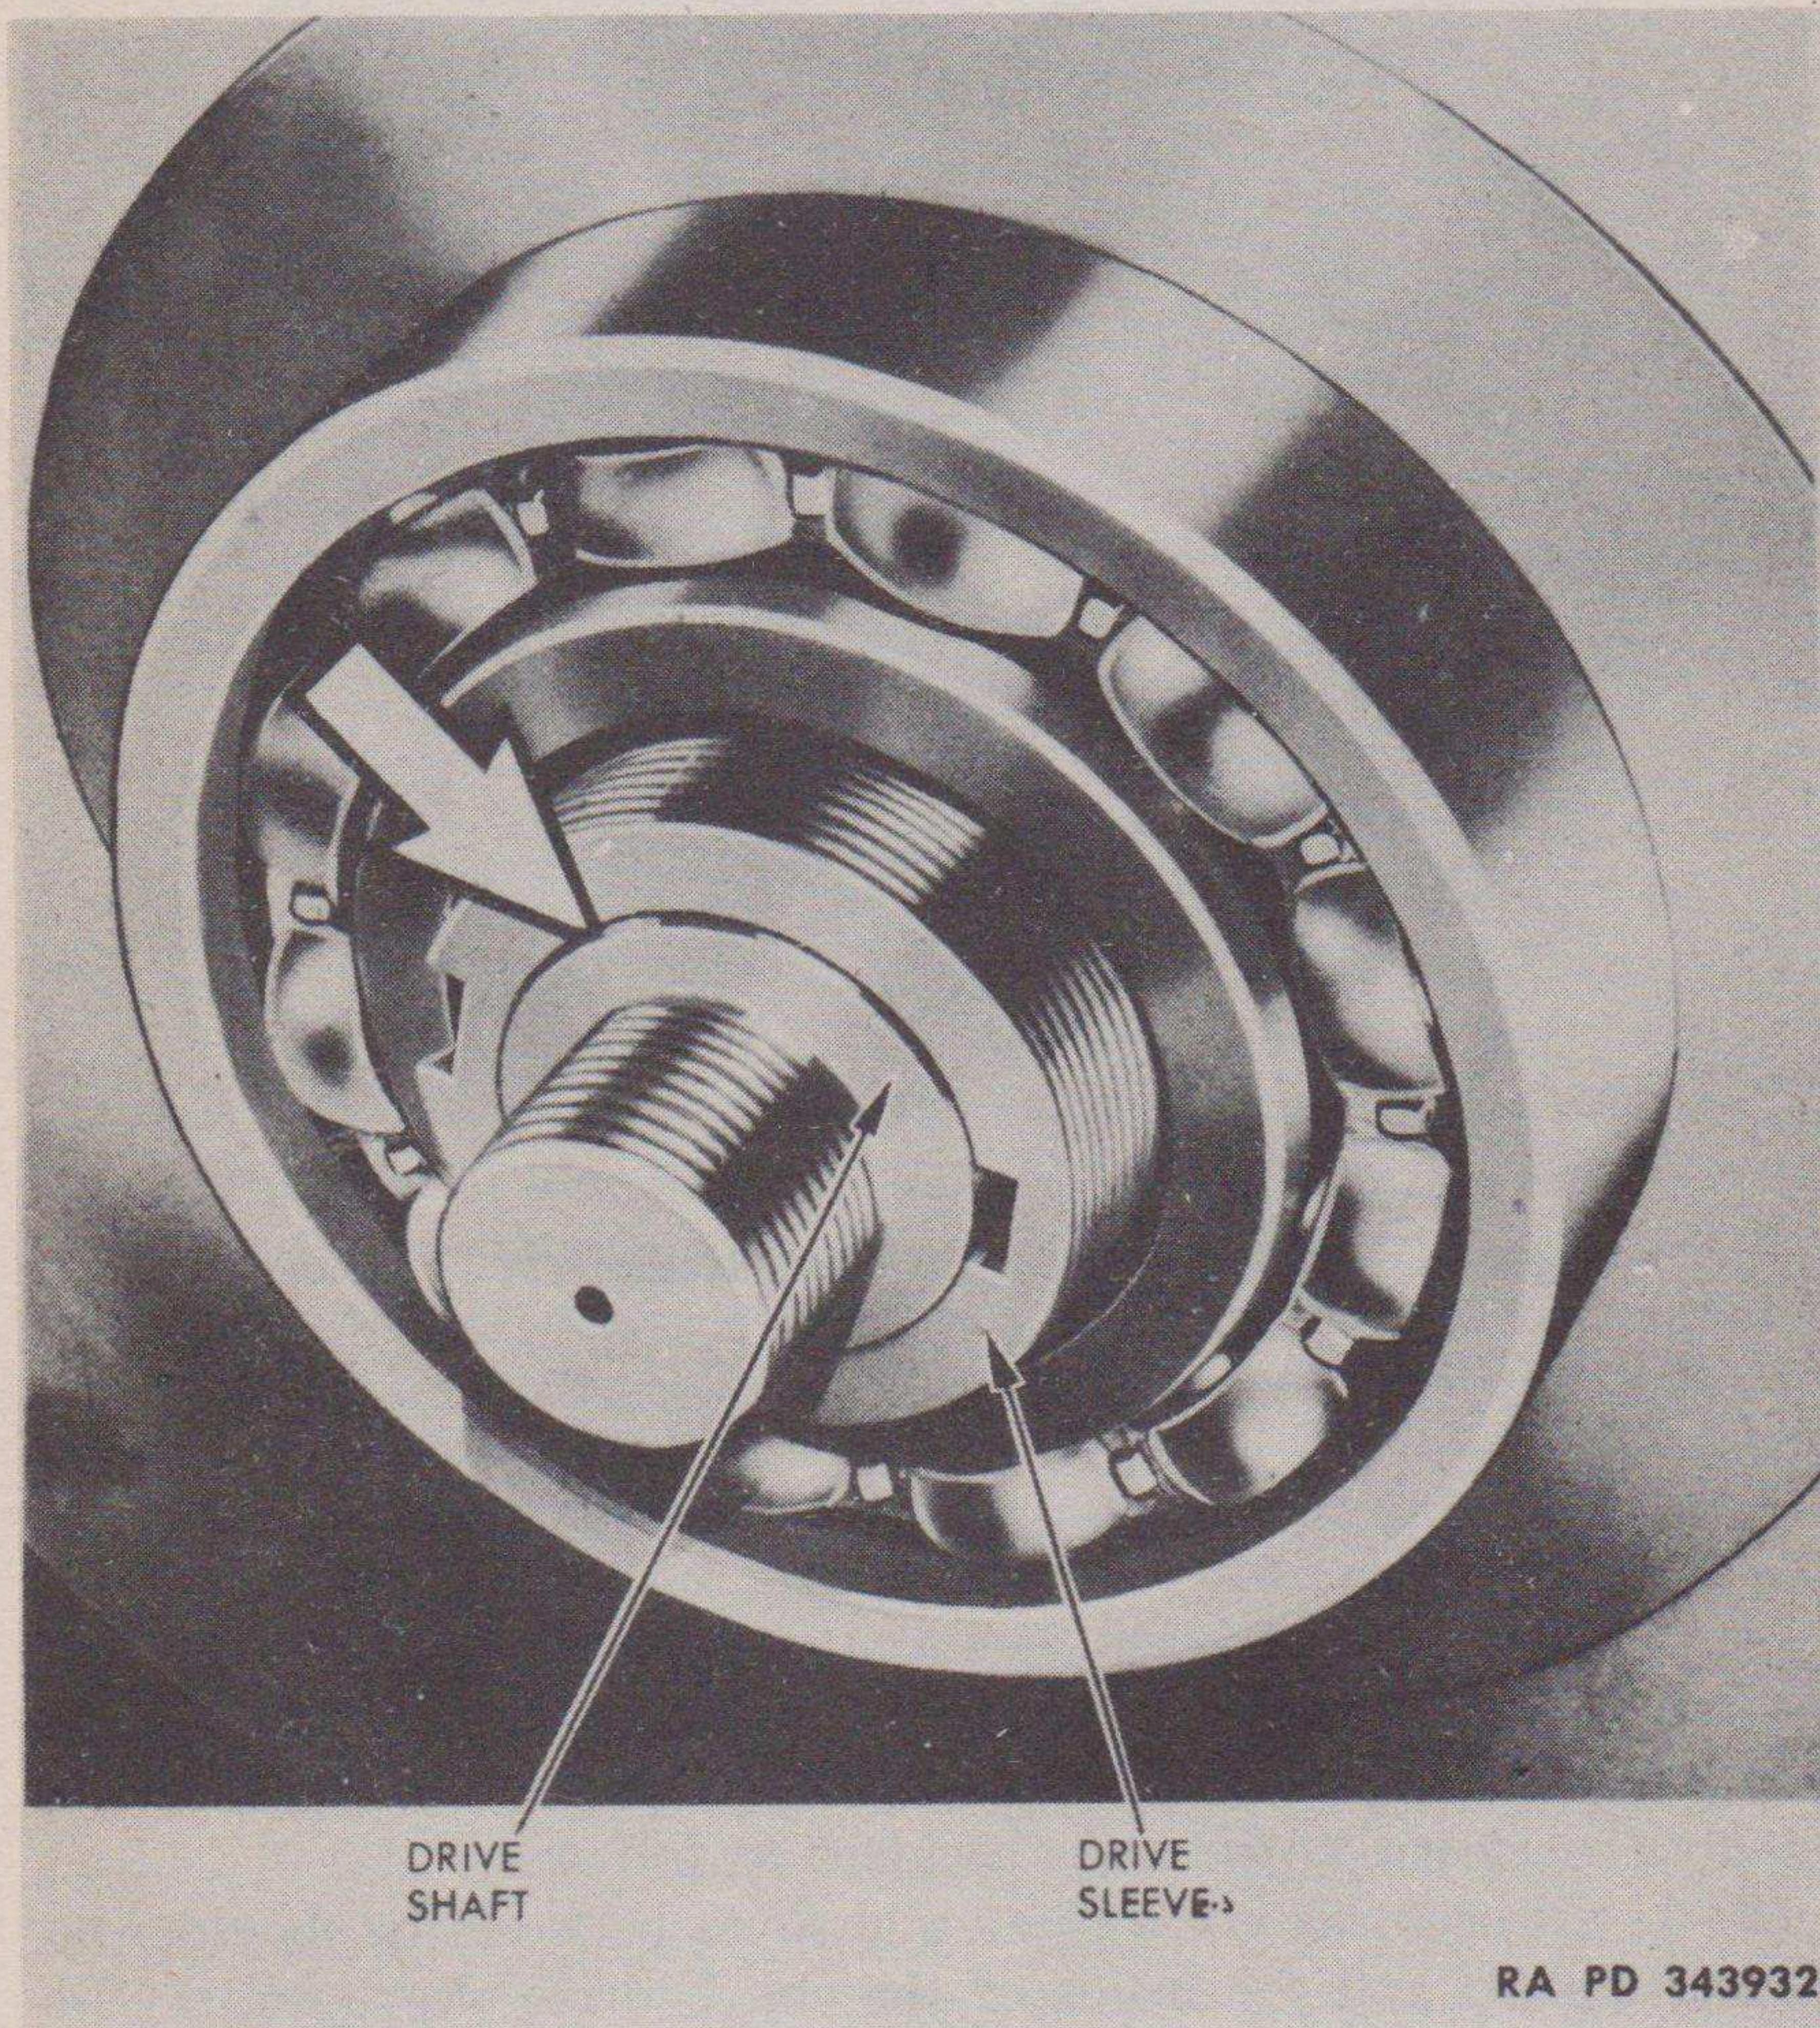
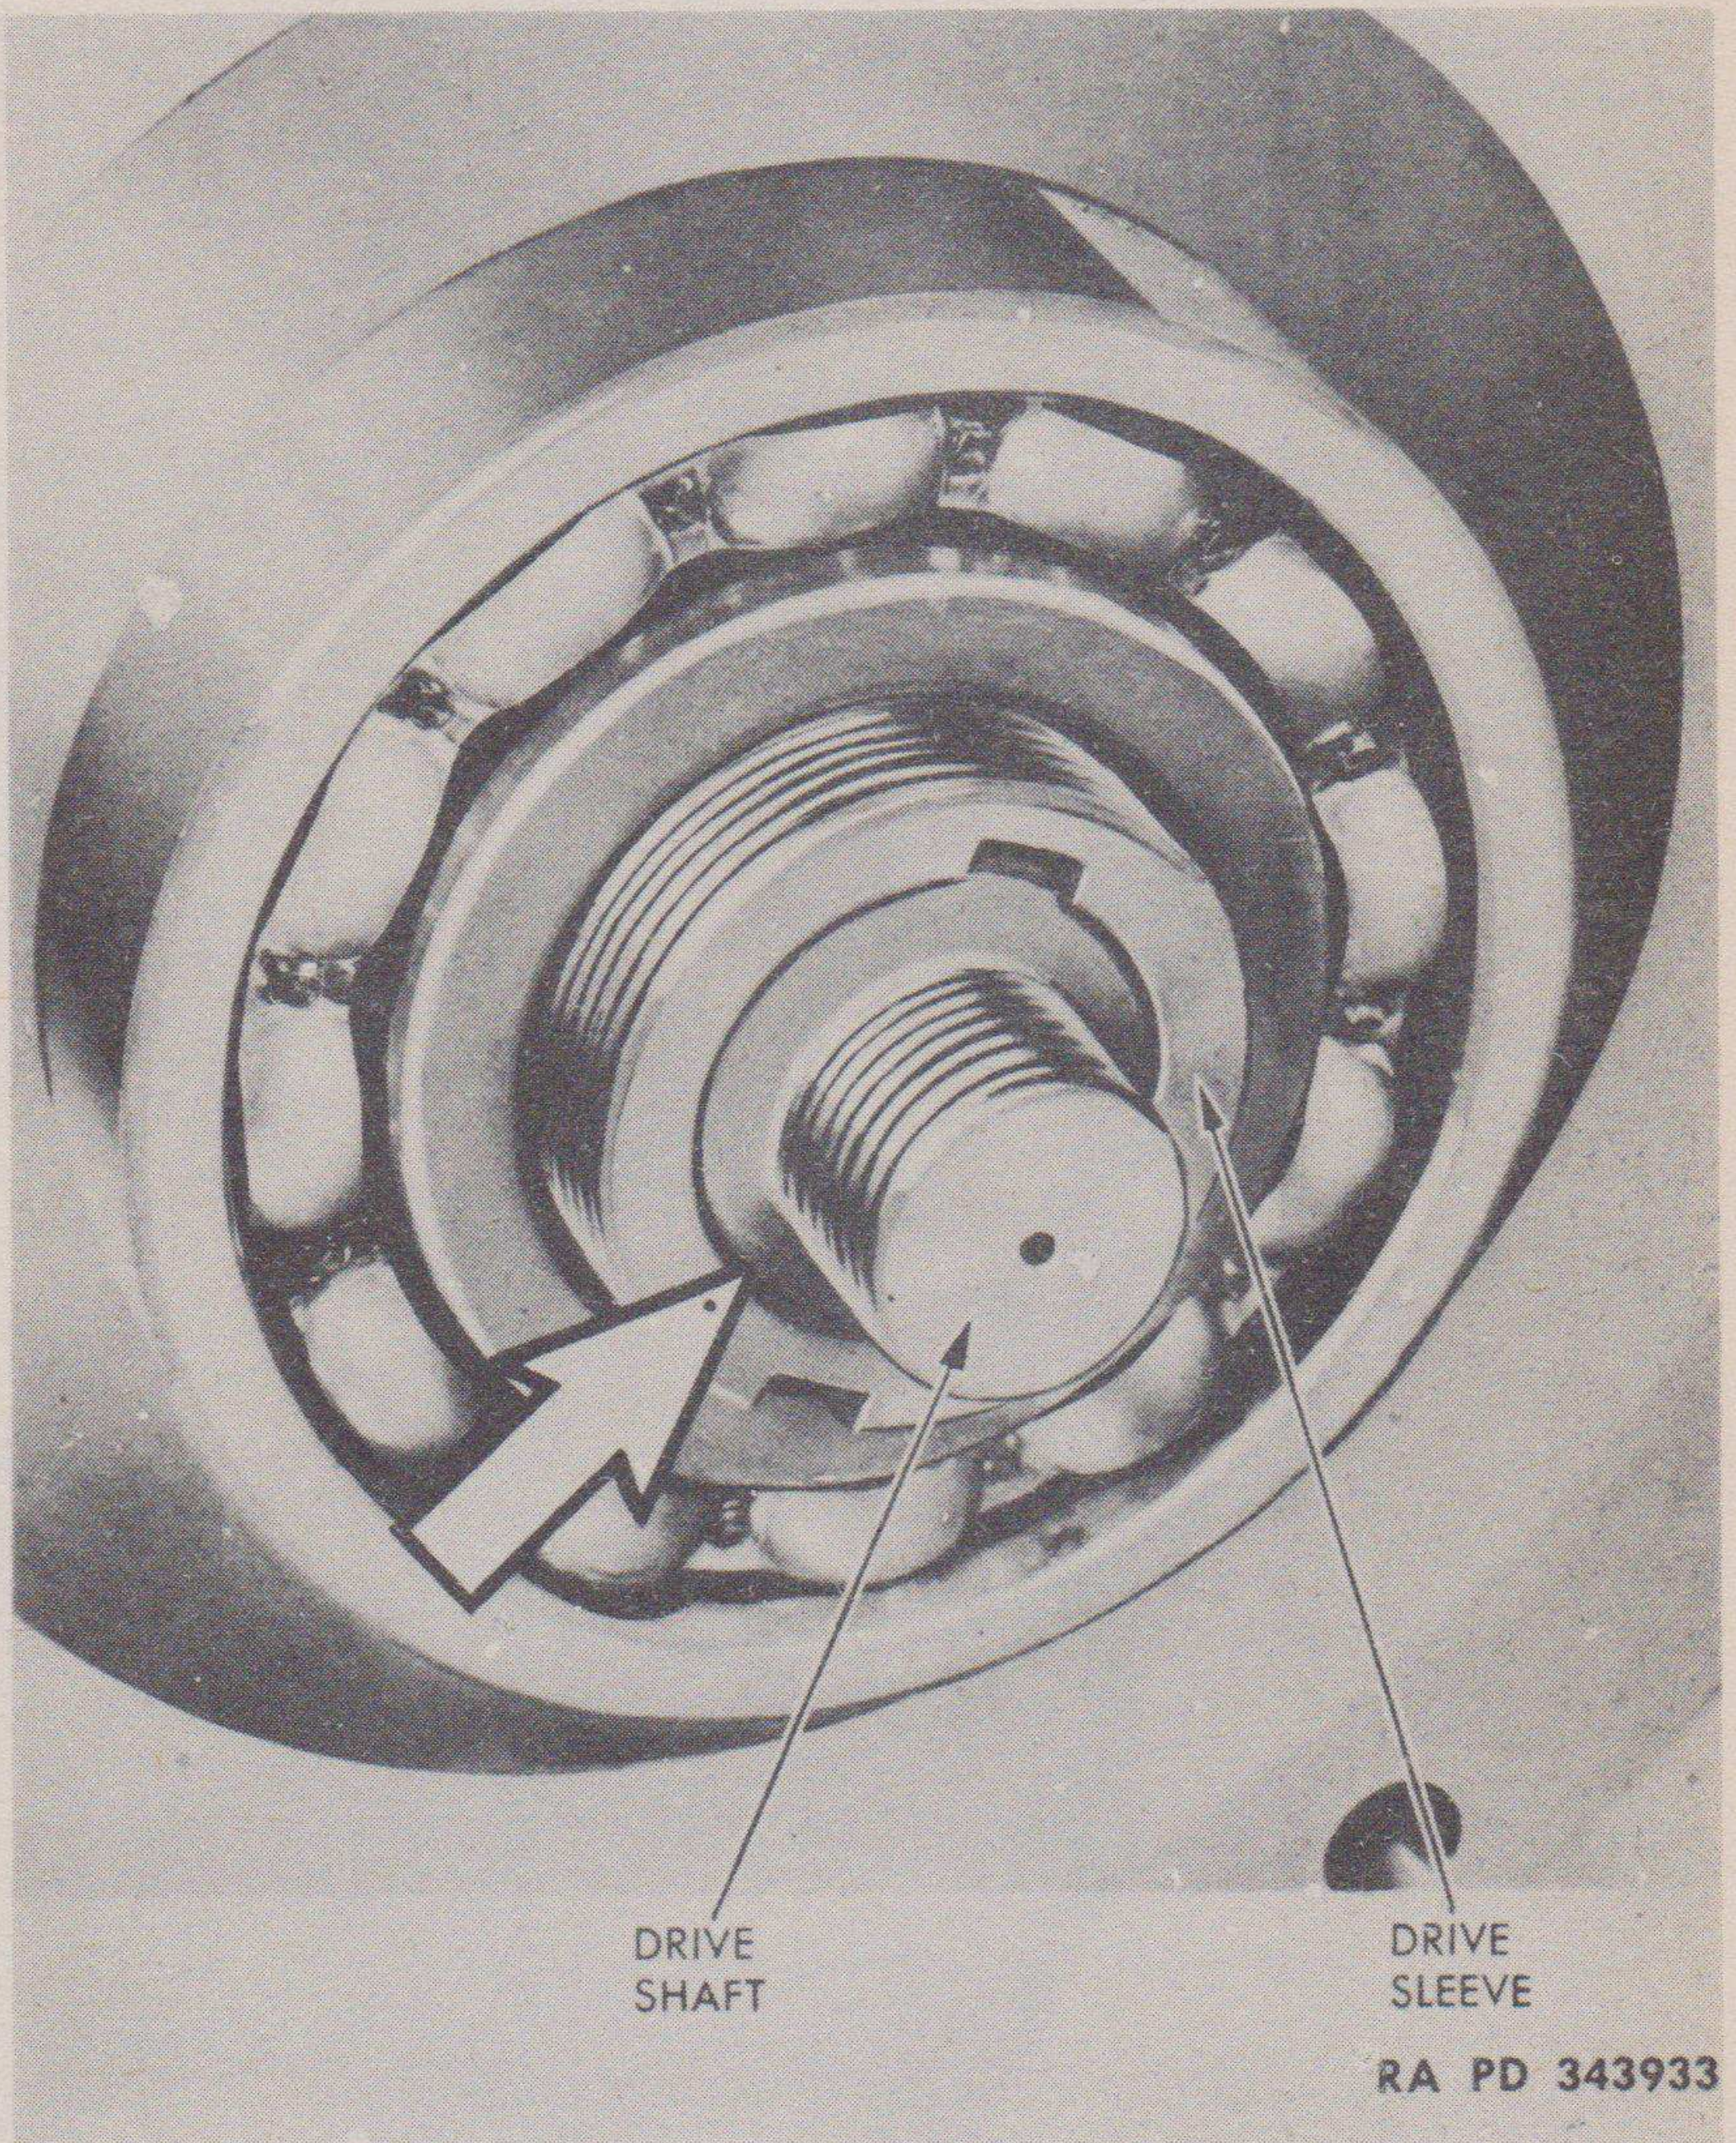

Figure 70—Location for First Reduction Drive Pinion Adjusting Shims
Figure 71—Extension of Clutch Drive Shaft Beyond Clutch Drive Sleeve
(1) Install intermediate gear assembly and check backlash between first reduction drive pinion and first reduction drive gear. The backlash should be from 0.010 to 0.015 inch.
(2) To adjust the backlash, remove the clutch case cap from rear of the clutch case. Remove cotter pin and nut from the drive clutch shaft, then raise the tang of the locking washer and remove the nut from the clutch drive sleeve. Adjust the backlash as follows:
(3) If the backlash is too great, add shims between the shoulder on the drive shaft and the inside of the clutch drive sleeve nut. (See fig. 70.)
(4) If the backlash is too tight and there are shims on the drive shaft, remove the number of shims necessary to secure proper backlash.
(5) If the backlash is too tight and the drive shaft extends beyond the clutch drive sleeve as shown in figure 71, install the necessary shims between the clutch drive sleeve bearing locking washer and nut to secure proper backlash.
(6) Replace shaft nut, cotter pin, and clutch case cap.